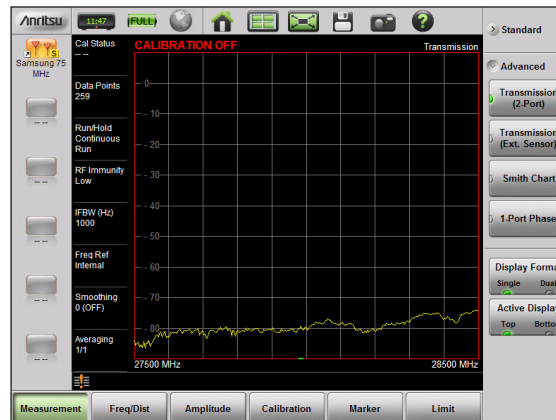

Figure 4. Transmission (2-Port)
- Set the Measurement type to Transmission 2 Port, found under the Advanced Measurement selection (Figure 4).